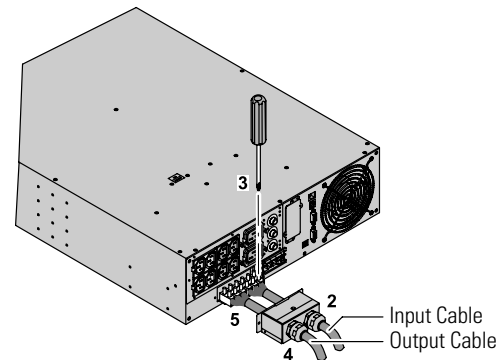

Figure 22. Installing the Input and Output Cables (EU Models)
2. Insert the input cable through the input cable opening (see Figure 22).